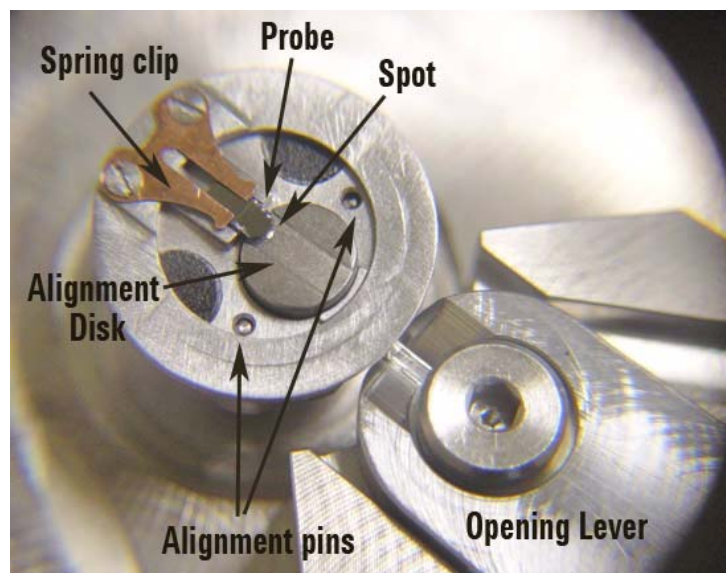

Figure 43 Two-piece nose assembly disk on fixture
- 1 Place the nose assembly disk on the assembly fixture, as shown in Figure 43. Make sure that it aligns with the center disk and two small alignment pins.
- 5 A small alignment spot on the fixture (Figure 43 on page 69) indicates the proper location for the cantilever tip. Place the probe such that the tip is close as possible to this spot.